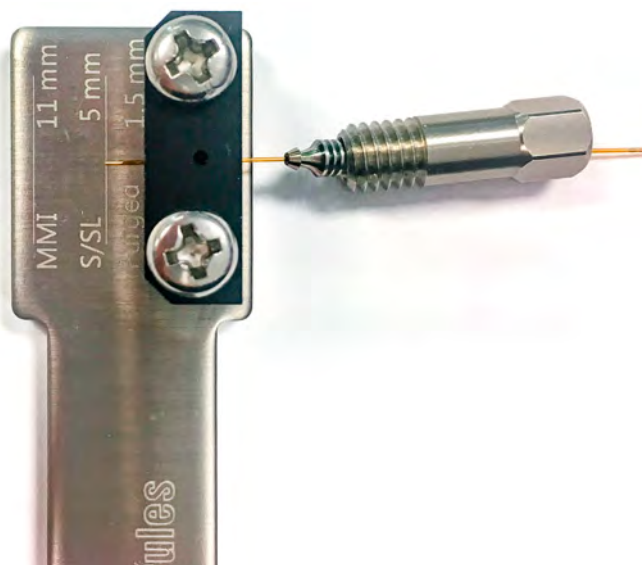

Figure 13. Thread the column through the column nut, ferrule, and swaging tool
- 3 Pass the column end through the column nut, the ferrule, and the swaging tool, as shown in Figure 13.